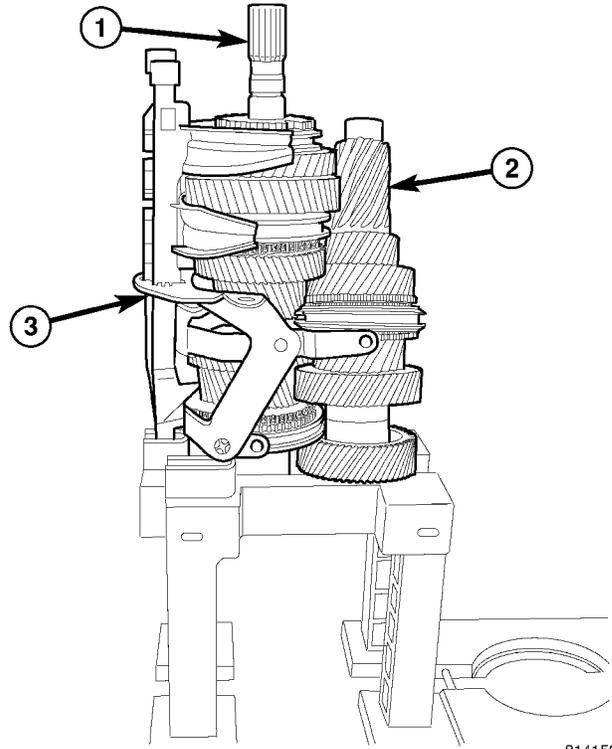

Fig. 19 MAIN/COUNTERSHAFT
(14) Remove mainshaft (1), countershaft (2) and shift rails/forks (3) from fixture (Fig. 19).